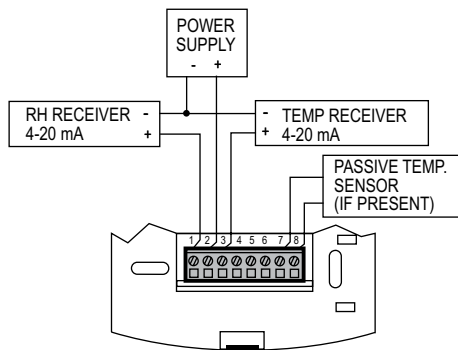

Figure 2
Use maximum 18 AWG wire for wiring to terminals. Refer to Figures 2 and 3 for wiring information.
**Current Output Selected:** Wire as shown in Figure 2. Current outputs must be powered with 10-35 VDC. If the RH output is not required, wire the negative terminal of the power supply to terminal 1 of the transmitter. All units come with 4-20 mA RH and Temperature outputs. If the 4-20 mA temperature output is not used it may be left disconnected. If the unit has a passive temperature sensor, wire to terminals 7 and 8.